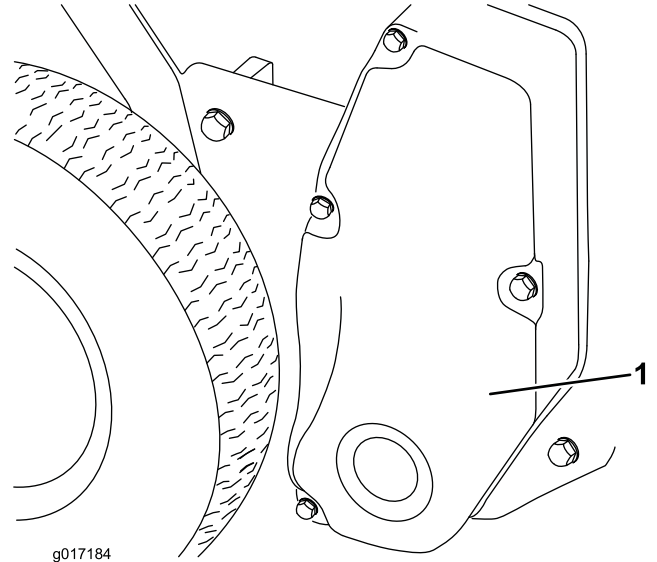

Figure 17
1. Remove the 4 bolts securing the reel-drive-belt cover to the right, side plate and remove the cover (Figure 17).